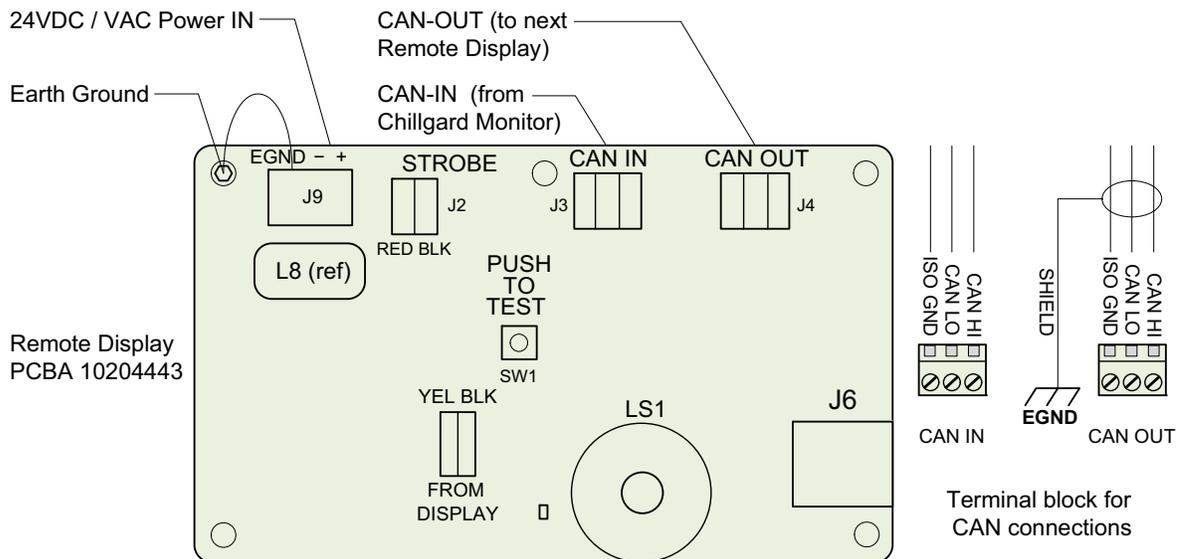

Fig. 12 Remote Display Wiring Diagram
The remote display Wiring Diagram (Fig. 12) gives the details of the wiring requirements for the device.
- (1) Remove the knock-out plug in the top of the housing.
- (2) Install the strobe with the foam gasket between the strobe body and the housing.
- (3) Hand tighten the threaded lock ring on the inside of the housing.
- (4) Plug the green two position connector into the PC board (Strobe) header as shown in Fig. 12.
- (5) Close and secure the unit.
- (1) Press the push button on the PCB (See Fig. 12). Together with the audible tone, the strobe should give a visual signal.
- (2) Go to the Settings. Hit "Activate". There should be an audible and visual signal.